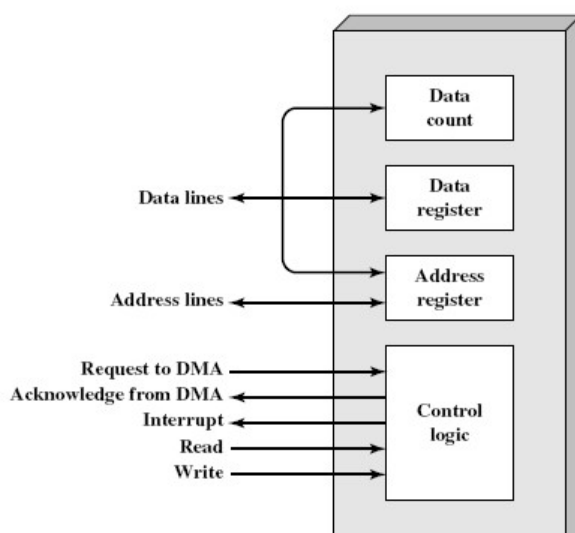

Figure 7.11 Typical DMA Block Diagram
- The DMA module Figure 7.11 is capable of mimicking the processor and, indeed, of taking over control of the system from the processor.